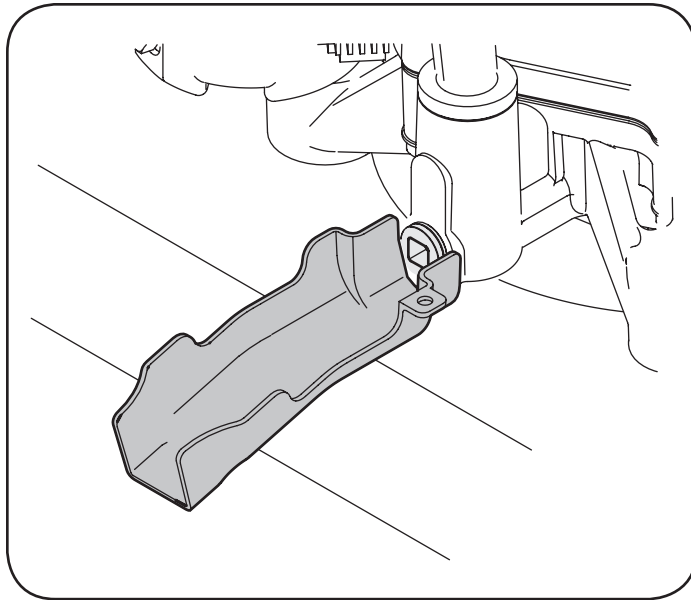

Figure 27
2. Snap the small end of oil drain sleeve onto the oil sump. See Figure 27.